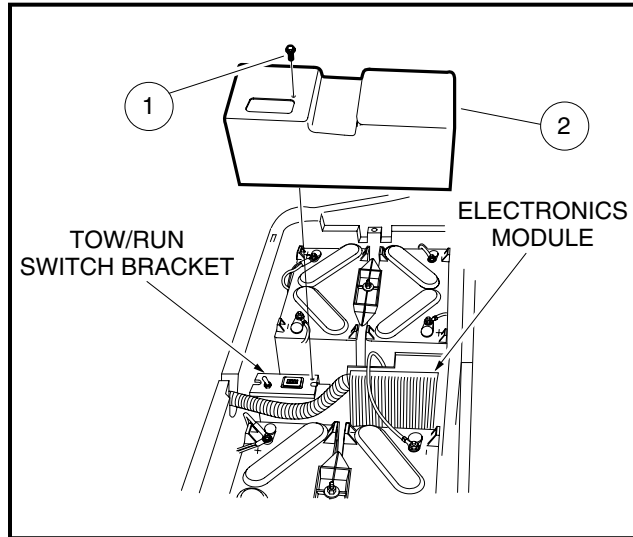

Figure 12-5 Electronics Module Cover
2. Remove the screw (1) that holds the cover (2) over the electronics module (**Figure 12-5, Page 12-6**).
3. Hold battery wire out of way and lift cover (2) off the vehicle.